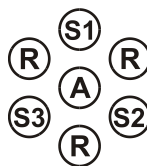

Figure 1.
Antigen (A) is placed in the center well with a micropipettor set at 50 µl. Fifty microliters of reference positive control serum (R) are placed in wells on each side of the sample(s) to be tested (Figure 1). This arrangement provides a positive control line on each side of the test serum, thus facilitating accurate determination of lines of identity. A total of three samples can be tested in each pattern, again using 50 µl for each well. The wells are filled level with the agar surface, leaving no meniscus. Serum or antigen must not run on top of the agar. Allow the plates to set a few minutes before moving to reduce the possibility of spillage. Plates are incubated at room temperature (23 ± 2°C) in a closed humid chamber. If room temperature is above 25°C or below 20°C, a 22°C incubator should be used.